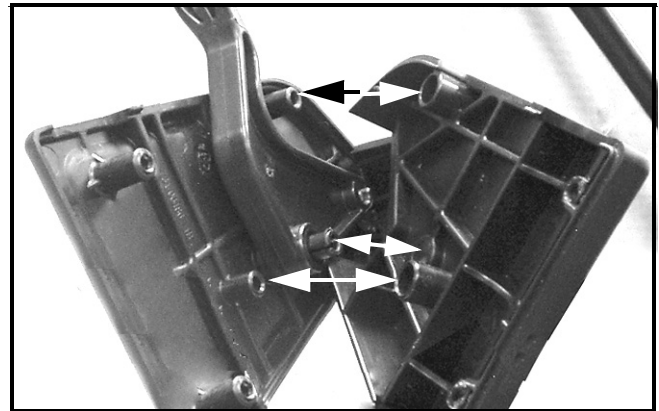

FIGURE 4
NOTE: Carefully close the two halves together, while aligning the three (3) posts in the upper cover half with the sockets in the lower cover half. See Figure 4.